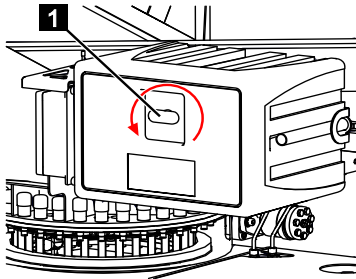

Fig. 214
2. Turn the lock (Fig.214/1) anti-clockwise.